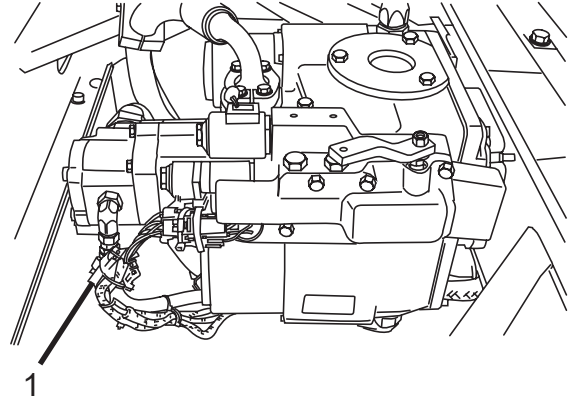

Figure 4
13. **For Traditional Controls with RE (Remote Electric Controls) Only:** Locate and disconnect the main electrical connector (Figure 4, Item 1) from the charge/discharge coils. Move the connector away from its mating connector. Proceed to Step 17.